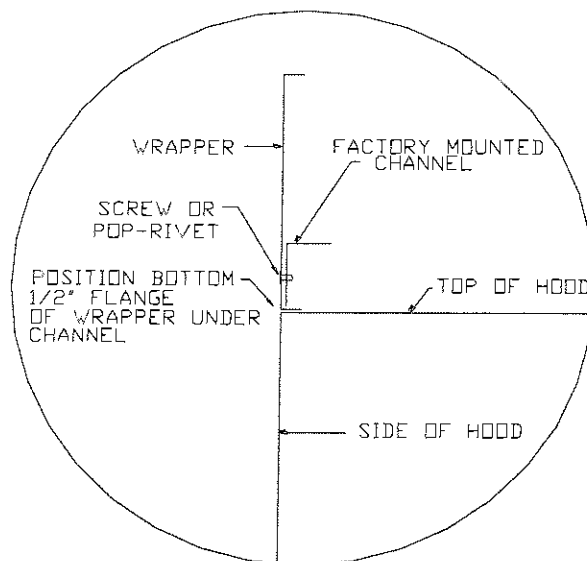
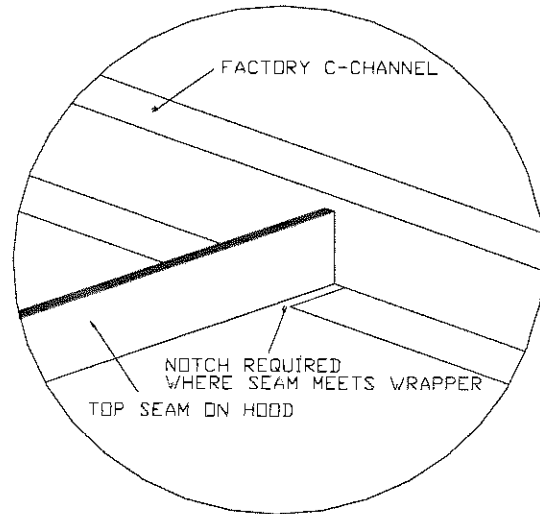

Figure 14A
Figure 14B
2. Locate one of the side wrapper panels and position it on the hood so that the 1/2" flange on the bottom of the panel slips underneath the side channel on top of the hood. **See Figure 14A: Wrapper Detail.** **NOTE: A notch will have to be cut on the wrapper flange using shears (tin snips) where interference occurs, where applicable. See Figure 14B: Top Hood Seam Detail.**